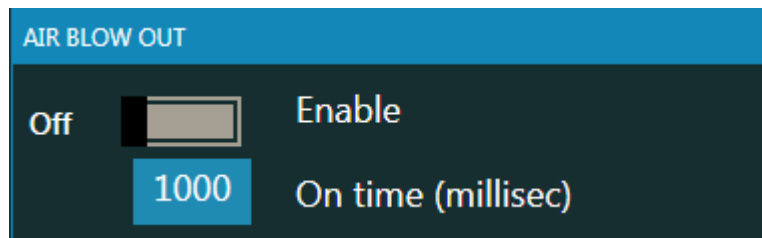

Figure 40
- **AIR BLOW OUT:** On the top of the box the regarding function can be enabled or disabled by operator using the sliding menu (If the menu as **Figure 40** the function is disabled). This function is generally used to piercing thicker sheet metal to avoid the heating and cutting fume where the lead-in area. When this function enabled the value into the “On Time (millisec)” will be taken into account by system. For example the compressed air will be blown-out 10 seconds for the beginning of every piercing as shown **Figure 40**.